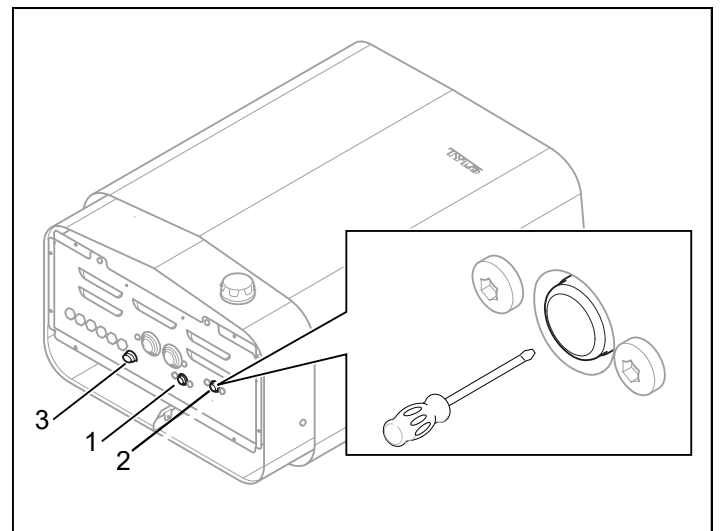

Figure 9: Resetting the temperature cut-out
• **Water reservoir** - The temperature cut-out in the reservoir is designed to protect the heater element from boiling dry. There is a red reset button under the heater which must be pressed in (see Fig. 9). If the cut-out has activated, the button will feel stiff and will 'click' when reset. If the cut-out has not activated and after resetting, the button will feel springy.
• **Heater** - The temperature cut-out in the heater is there to protect the components, pipe elements and woodwork in the sauna from overheating. There is a red reset button under the heater which must be pressed in (see Fig. 9). If the cut-out has activated, the button will feel stiff and will 'click' when reset. If the cut-out has not activated and after resetting, the button will feel springy.